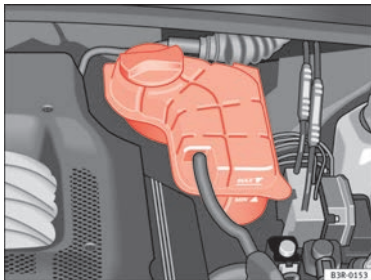

Fig. 168 Engine compartment: Coolant fluid deposit
- Check the coolant level on coolant fluid expansion tank ⇒ **fig. 168**. When the engine is cold, it should be between the “min” and “max” marks. When the engine is hot, it may be slightly above the “max” mark.
- Cover the cap on the expansion tank ⇒ **fig. 168** with a cloth, and **carefully** unscrew the cap anti-clockwise ⇒ **△**.